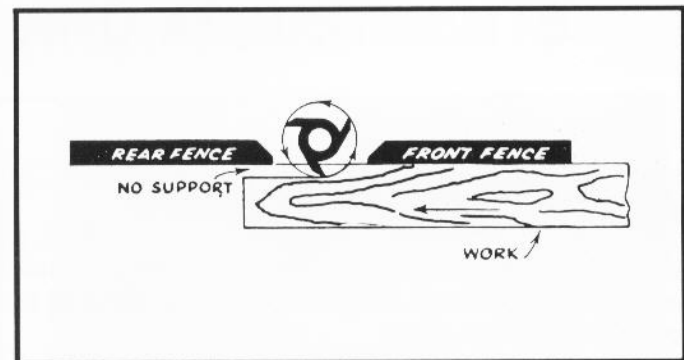

Fig. 28
2. When the shaping operation removes the entire edge of the work, e.g., in jointing or making a full bead, the shaped edge will not be supported by the rear fence when both fences are in line, as shown in Fig. 28. In this case, the work should be advanced to the position shown in Fig. 28 and stopped.